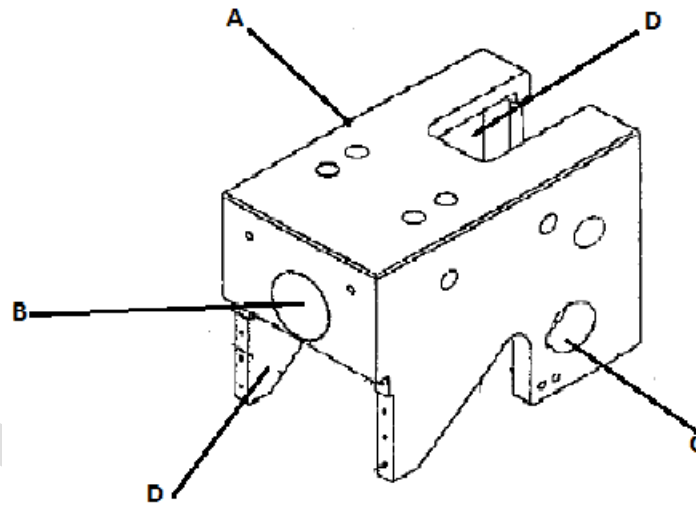

Figure 7
2. Multiplying Linkage Housing	25-73666/25-78598 (Fig 7 Zones B and C)
3. Multiplying Linkage Housing	25-73666/25-78598 (Fig 7 Zones A and D)